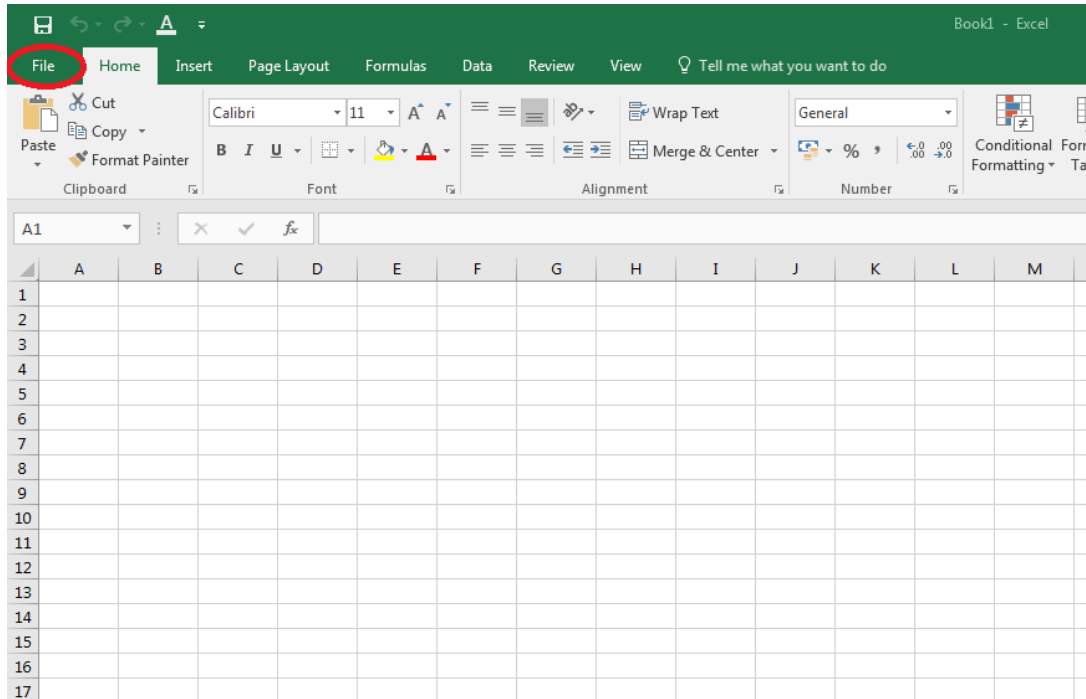

Figure 2.2: Registering FluidEXL^{Graphics}Stud as Add-In in Excel[®]
- Click the "File" button in the upper left hand corner of Excel[®] (see Figure 2.2)